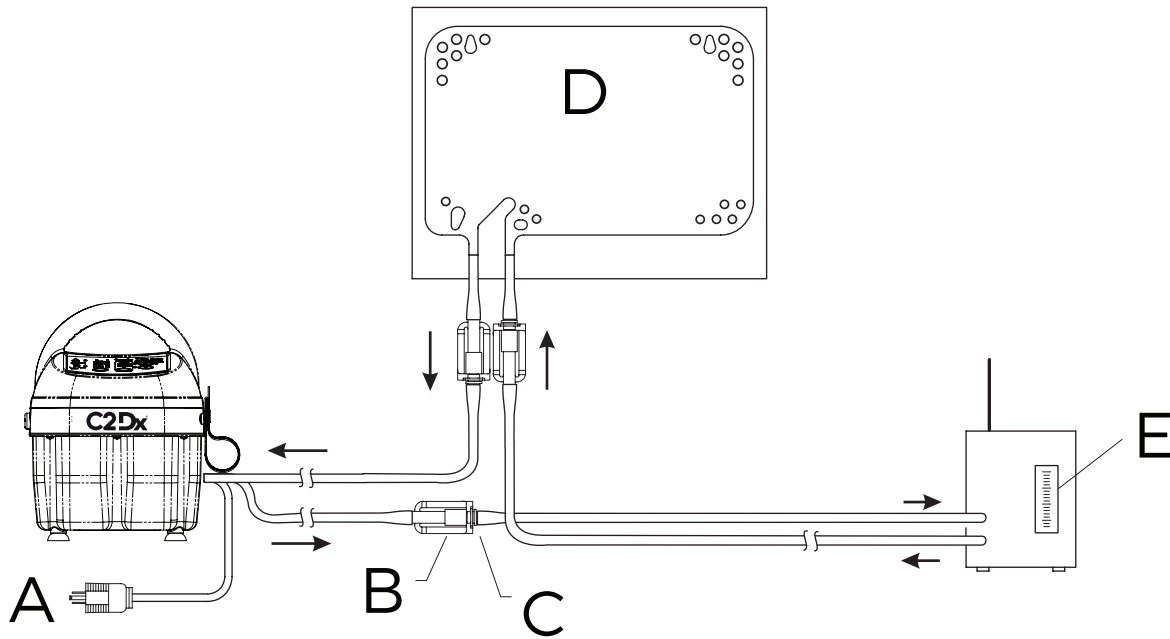

Figure 1: Functional check setup for Clik-Tite® connectors
1. Plug into a properly grounded outlet (A) (Figure 1 above).
2. Fitting and tube closest to the front of the T/Pump® Temperature Therapy Pump (B).
3. Male Clik-Tite® connectors (black O-ring) (C).
4. Mul-T-Pad® Temperature Therapy Pad, size 18" or 22": lay the pad flat and at the same level as the pump (D).
5. TPT9, 7 gph (26.5 lph) minimum. Read at top of the float (E).